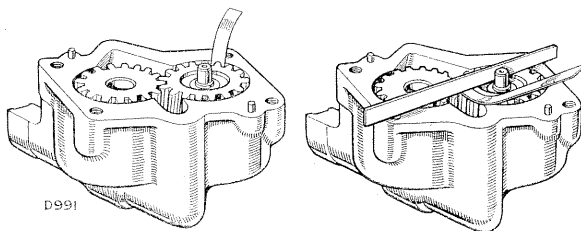

Fig. AO-6—Checking clearance of oil pump gears
- Check the radial clearance and end-float of the gears as shown in Fig AO-6.